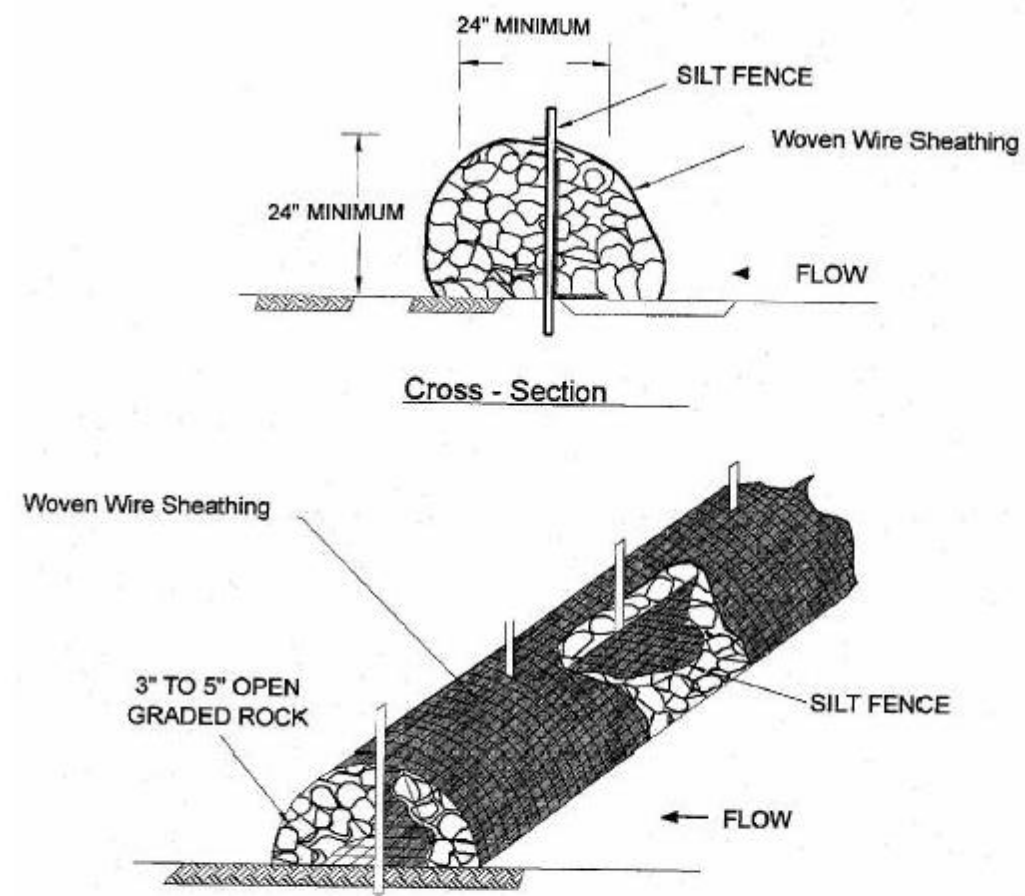

Figure 1-29 Schematic Diagram of High Service Rock Berm (LCRA, 1998)
- Place the rock along the sheathing on both sides of the silt fence as shown in the diagram (Figure 1-29), to a height not less than 24 inches. Clean, open graded 3- to 5-inch diameter rock should be used, except in areas where high velocities or large volumes of flow are expected, where 5- to 8-inch diameter rock may be used.